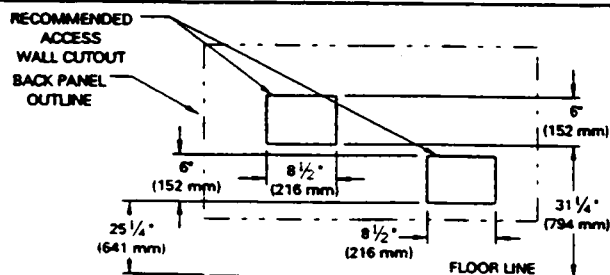

FIG. 6
2. Make wall access cutout as shown in Figure 6. Be sure that bottom surface is level to the floor and will not protrude below bottom edge of back panel.